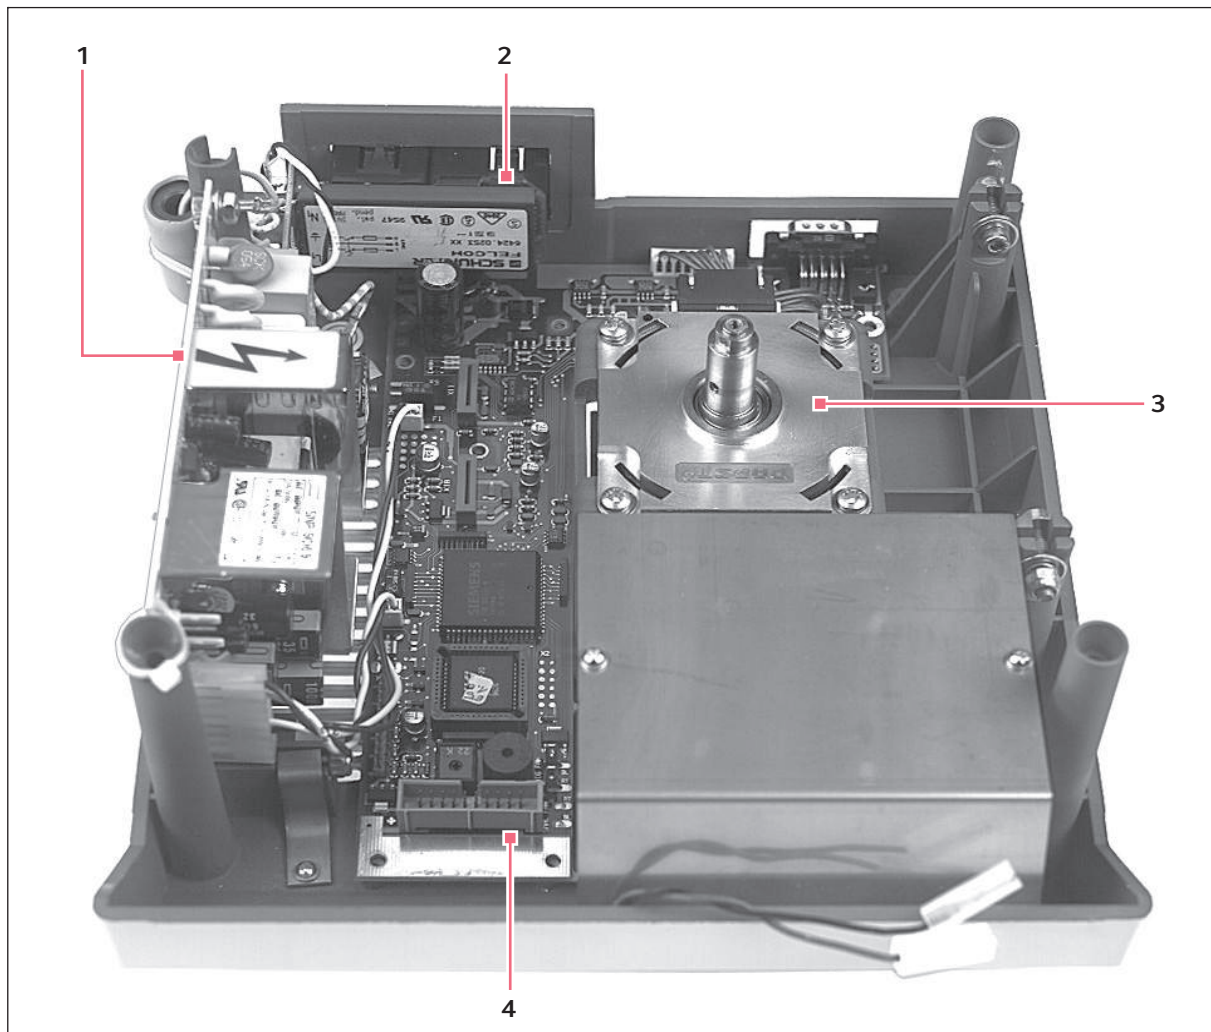

Fig. 6-8: PCB, motor, mains input module and switched-mode power supply
1. Remove the four fastening screws of the motor (see Fig. 6-8 on p. 35).
(see Fig. 6-8 on p. 35)